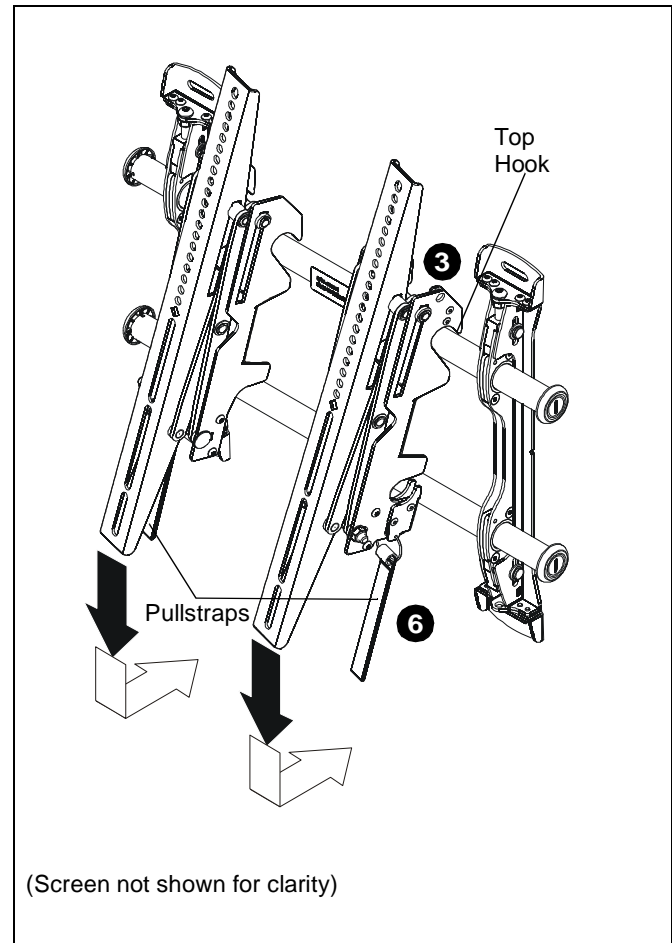

Figure 12
- Hang top hook of interface brackets (U and V) onto the top bar of the mount (R). (See Figure 12)
- Pull downward on the pullstraps and swing inward toward wall, latching interface brackets to lower bar and locking bottom of screen to the mount. (See Figure 12)